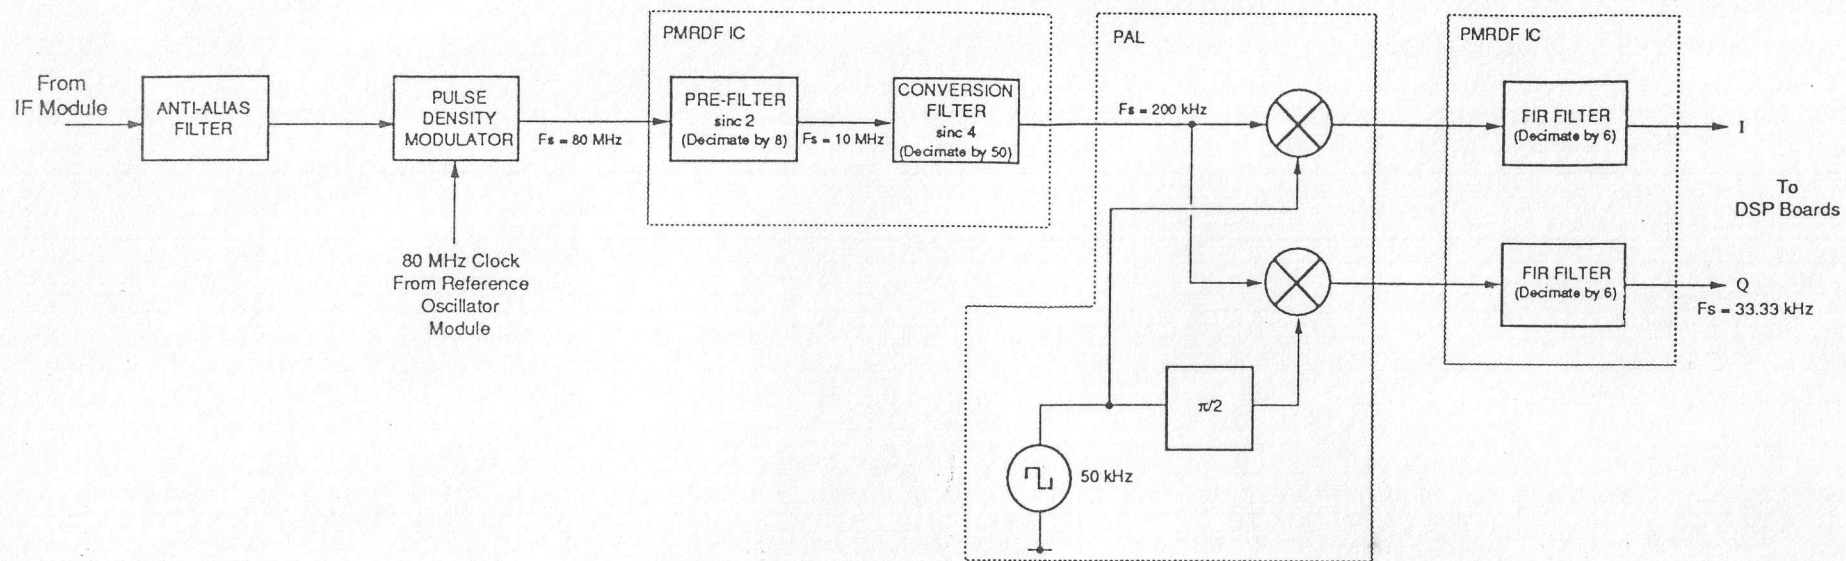

Figure 1 - Analogue to Digital Converter Simplified Block Diagram
- Figure 1 Analogue to Digital Converter Simplified Block Diagram
Figure 1 shows the ADC split into its separate circuit blocks. Figure 2 expands on the blocks of Figure 1 to show the individual signals and the signal flow through the ADC. In Figure 2 waveforms and signal levels have also been shown at appropriate points to aid fault diagnosis.
As shown in Figure 1 the PMRDF comprises three digital filters in series. The pre-filter has a sinc^2 response and decimates by a factor of 8. The conversion filter has a sinc^4 response and decimates by a factor of 50. The final 120 tap FIR filter decimates by a factor of 6. The overall decimation factor is thus 2400. Between the conversion filter and the final FIR filter the signal is fed through the PAL. In the PAL a pair of quadrature digitally generated 50 kHz signals are mixed with the main signal at 200 kHz to produce the complex (I and Q) baseband signal. The final FIR filter is thus formed of two independent filter blocks, one for each of the I and Q channels. The outputs from the I and Q final filters are time multiplexed together to form a single serial data output signal.